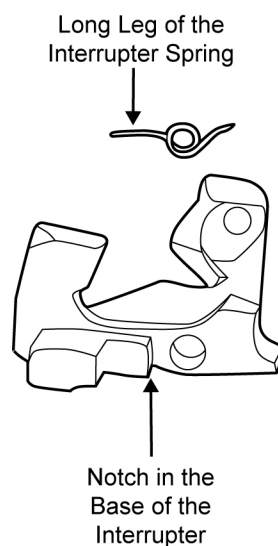

Figure 69. The Interrupter and Interrupter Spring.
- j. If present, install the interrupter onto the trigger, ensuring that the notch in the base of the interrupter is seated on the forward edge of the right side of the trigger. Install the interrupter spring with the long leg of the spring facing pointing forward. Ensure that the hole in the base of the interrupter and the coil of the interrupter spring are aligned with the holes in the trigger. Refer to Figure 69.